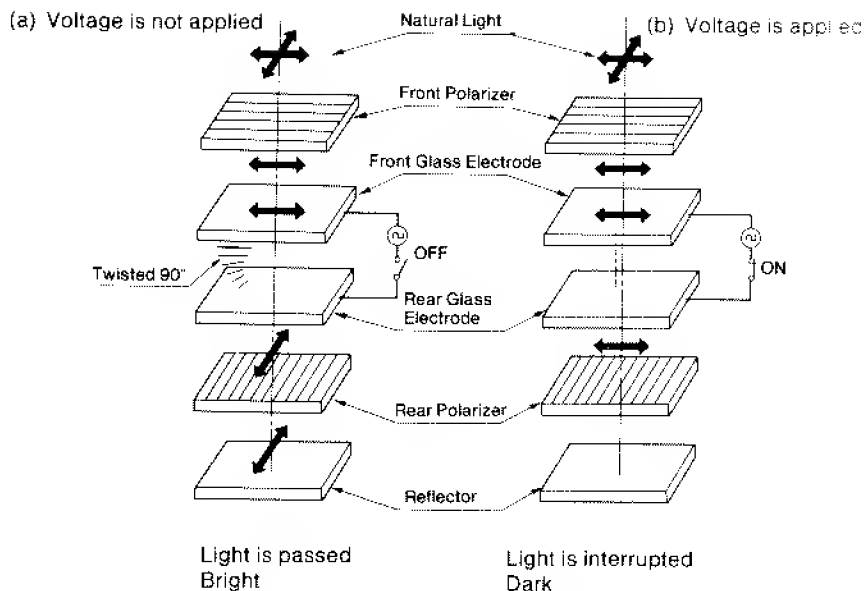

Figure C-19. Operation Theory of LCD Panel
Figure C-19 demonstrates how the LCD operates:
- As shown in Figure C-19 (a), if voltage is not applied, the liquid-crystal molecules between the upper and lower plates twist 90° to distribute light. This results in a 90° optical movement and the transmission of light.
- In Figure C-19 (b), however, voltage is applied and the liquid appears frosted in current-carrying areas, thus blocking light transmission.